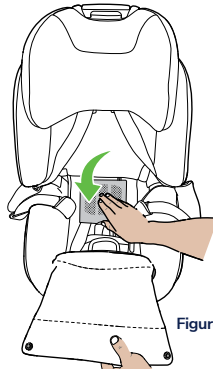

Figure 10
Step 4. Close the access door (Figure 10).